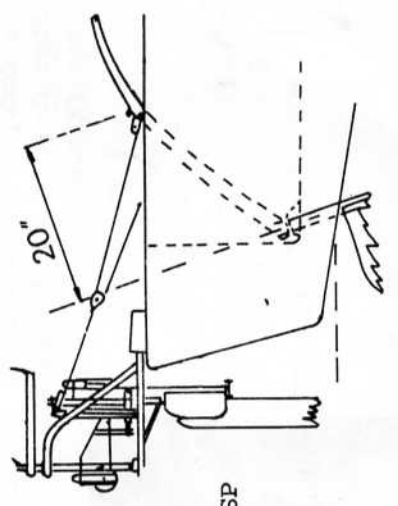

Fig.4SP
**Low level tiller 1:2 purchase kit** Cat No 899SP. Comprising: 6m(20ft) of rope and two special blocks for yachts which have a tiller rising from the cockpit sole where the steering ropes can only conveniently be connected at 50cm(20") from the rudder axis (fig.4SP)